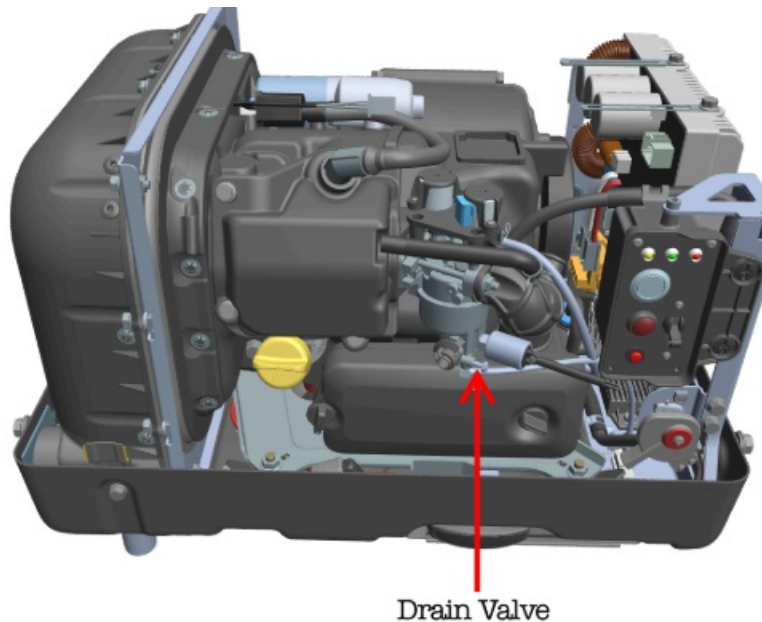

Fig. 12
10. If there is any gasoline left in the carburetor, drain the carburetor bowl (Fig. 12) to prevent deposits of gum from clogging the small passages in the carburetor as the gasoline in the carburetor evaporates during storage.